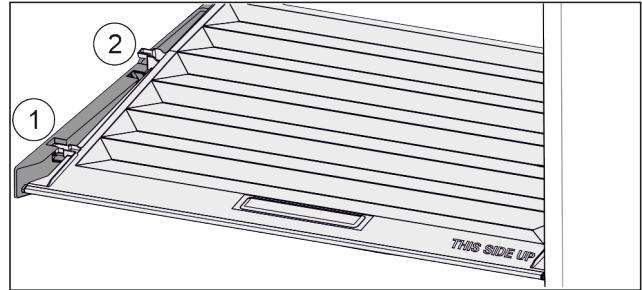

Fig. 119
- ▶ Pull the lid up at the front to the opening in the retaining parts Fig. 119 (1).
- ▶ Lift from the back and pull it up and out Fig. 119 (2).